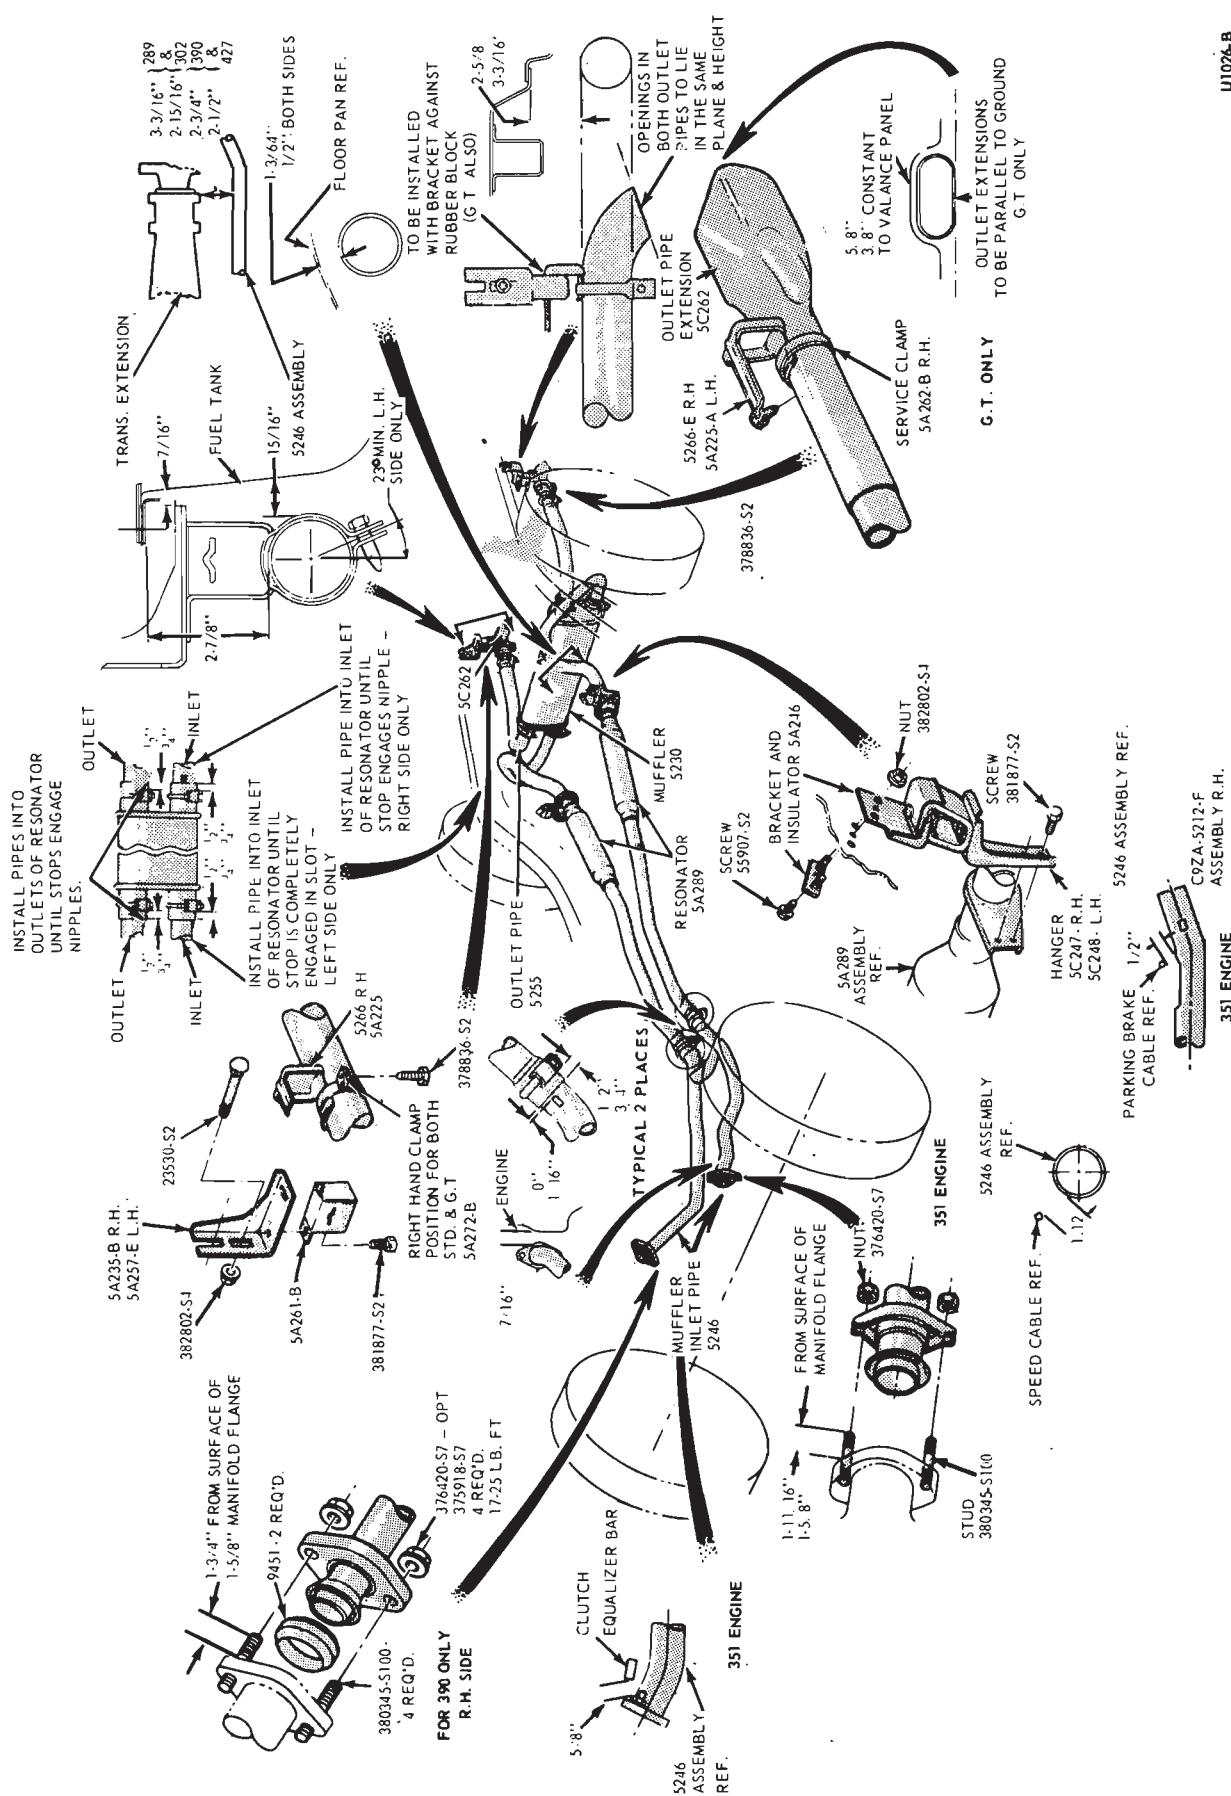

FIG. 6—Mustang Dual Exhaust System—351-4V, 390 and 428 V-8 Engines
4. Align the outlet pipe(s) to conform to the clearance specifications (Fig. 6). Torque the clamps to specifications.
2. Remove the inlet pipe clamp(s) at the inlet pipe extension(s). (Figs. 6, 7 and 8).
2. Connect the inlet pipe extension to the resonators. Install the resonator-to-muffler pipe(s) to the muffler(s). Be sure that all dimensional specifications are maintained (Figs. 6, 7 and 8).
4. Align the exhaust system to conform to the clearance specifications (Figs. 6, 7 and 8). Starting from the front of the system and working rearward, torque all nuts and bolts to the specifications in Section 3 of this part.